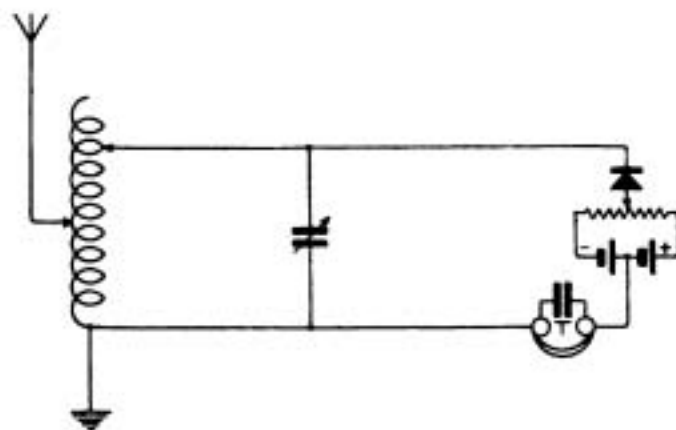

Fig. 5.
D.G.F. (Brixton Hill).—(1) Connect up circuit as in Fig. 5.